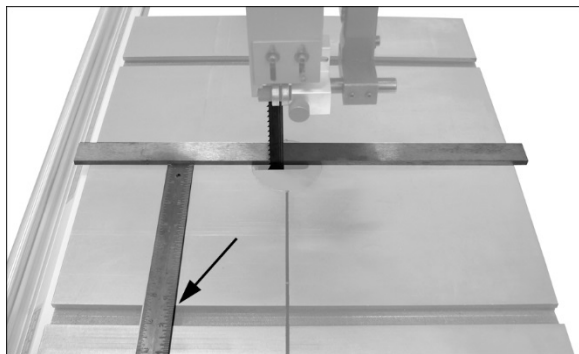

Figure 5-14
1. With blade tension lever in *tension* position, place a long straightedge flush against blade, making sure it evenly contacts both front and back of blade. See Figure 5-14. *Do not deflect blade by pushing into it.*
2. Use a gauge (Figure 5-14) to carefully measure distance from miter slot edge to straight edge. Take measurements at both front and back of table – these should be identical.